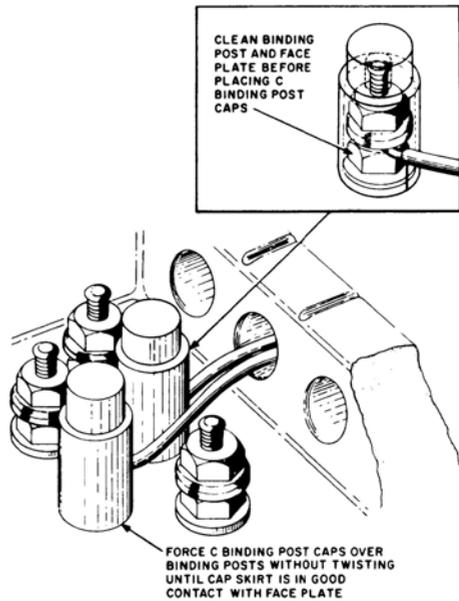

Fig. 32—Placing C Binding Post Caps
6.12 Place the caps over the binding post with the slit in the line with the terminated wire. Force the cap down over the binding post with terminated wire in the slit until the skirt of the cap is in good contact with the faceplate. Adjust the terminated wire so that it is positioned inside the hole of the cap as indicated in Fig. 32.
6.13 The C binding post caps are shown in Fig. 32.